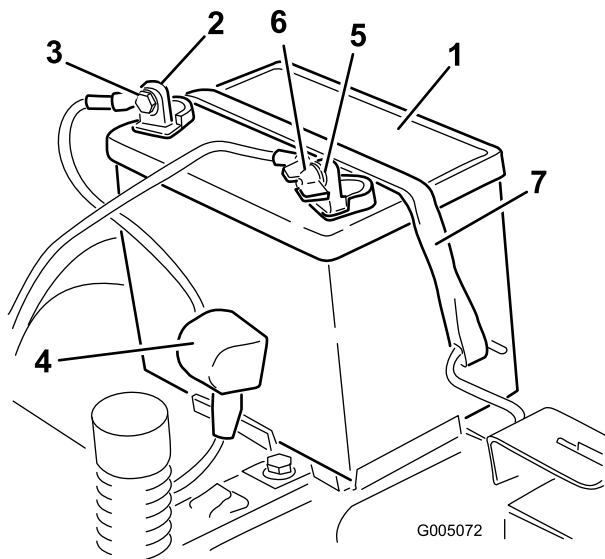

Figure 38
4. Disconnect the negative (black) ground cable from the battery post (Figure 38). Retain all fasteners.
- Slide the rubber cover up the positive (red) cable. Disconnect the positive (red) cable from the battery post (Figure 38). Retain all fasteners.
- Remove the battery hold-down (Figure 38) and lift the battery from the battery tray.
- Position the battery in the tray with the terminal posts toward the operating position (Figure 38).
- Secure the battery with the hold-down (Figure 38).